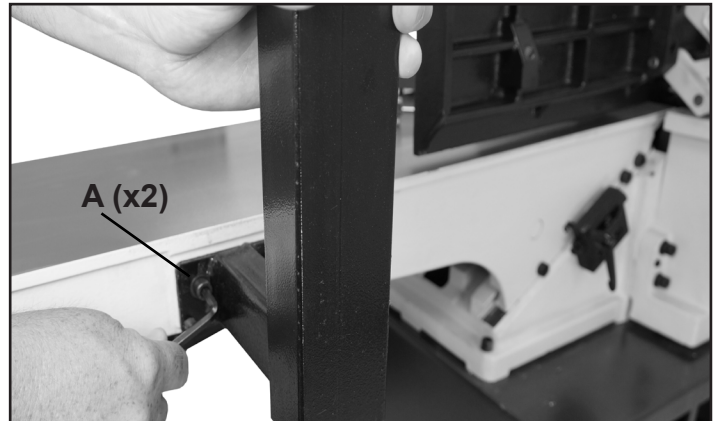

FIG. 15
2. Install the Switch Post to the rear of the infeed table and secure using two M8 x 20mm Allen bolts and two 8mm flat washers. A-FIG. 15.
NOTE: The two M8 x 20mm Allen bolts and two 8mm flat washers are pre-installed in the rear of Infeed Table casting. FIG. 15.